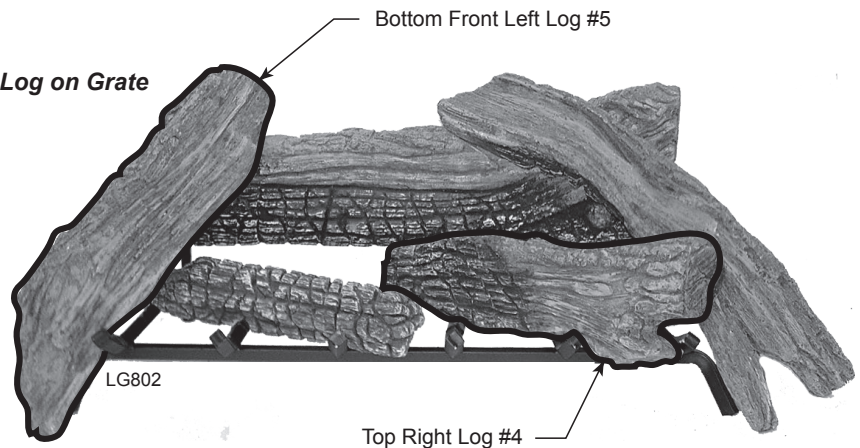

Figure 33 -
4. Place right end of Top Right Log #4 on the second and third grate prongs. *Figure 33*
5. Place Bottom Left Log #5 on back log #1 and to the outside of the left grate prong. *Figure 33*